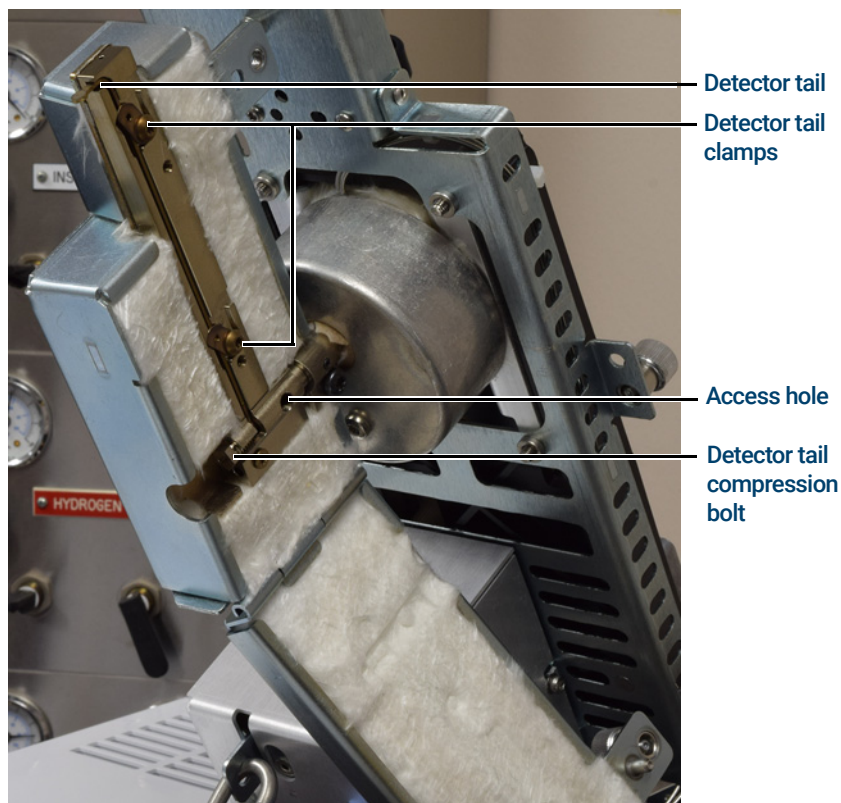

Figure 16. Detector tail housing, opened
- c** Use the Intuvo torque driver to remove the detector tail compression bolt. See **Figure 16**.